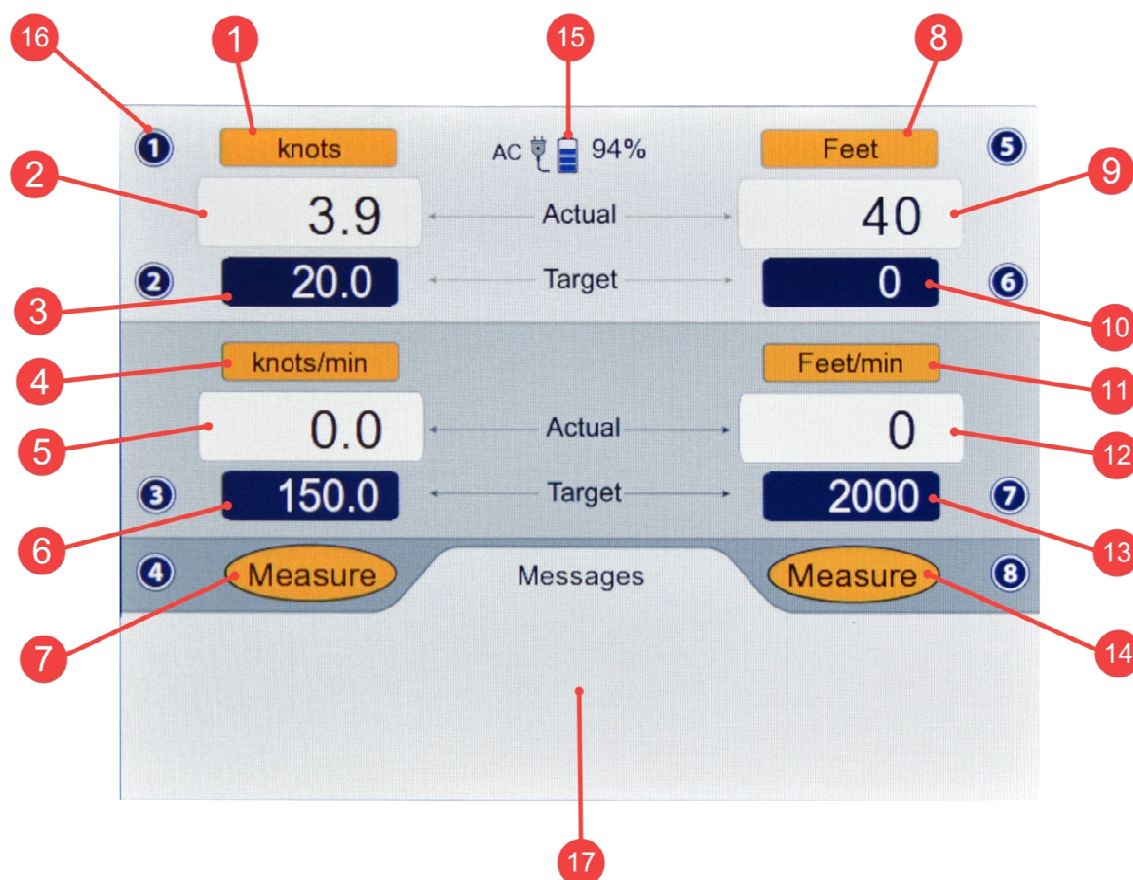

Figure 3.1: Main operating screen
- Release the Power key. After the sign-on screen, the display will appear similar to that shown in Figure 3.1 (next page).
Please refer to Figure 3.1. There are 17 different items (indicated in red) shown on this screen. Numbers 1 to 7 on the left side, refer to the Pitot-output parameters. Numbers 8 to 14 on the right side, refer to the Static-output parameters. Number 15 points to the power status. Number 16 points to a typical symbol indicating a key number (as shown, key # 1). Number 17 points to the 'Messages' section of the screen. Details of each item follow.